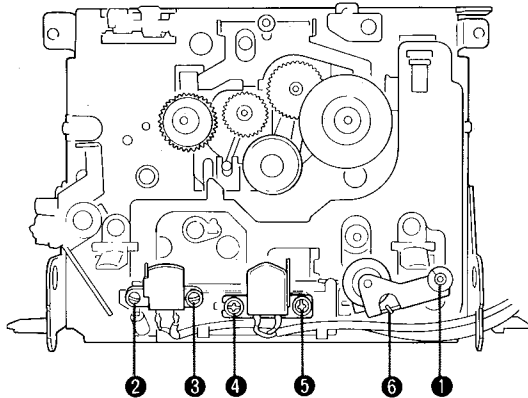

Fig. 12
2. Remove the lock washer ① in Fig. 12 and pull out the pinch roller by pushing the pinch roller spring ⑥ in Fig. 12 with tweezers.
3. Remove the screws ② and ③ in Fig. 12 and then remove the erase head.
4. Remove the screws ④ and ⑤ in Fig. 12 and then remove the record/playback head.
\* Be careful not to lose the spring which are attached to the screws ② and ④ in Fig. 12.